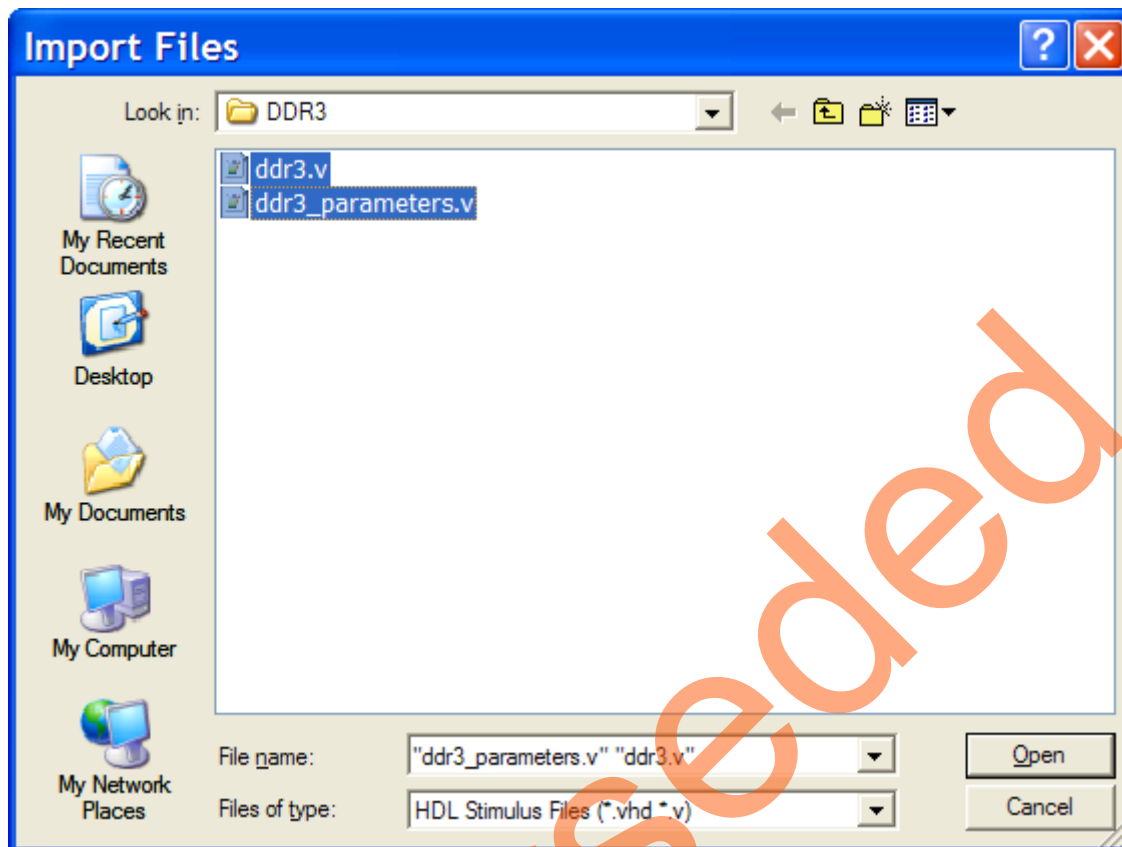

Figure 19. Import the DDR3 Models as Stimulus Files
- Select **HDL Stimulus Files (*.vhd *.v)** option from the **Files of type**, as shown in Figure 19.
- Select the provided **ddr3.v** and the **ddr3_parameters.v** files and click **Open**, as shown in Figure 19. The files are located under the <project directory>\DDR3_SmartFusion2_Tutorial\Source_files\DDR3_folder.